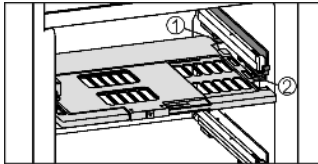

Fig. 8
- ▶ To insert the humidity control plate: Insert the cover mouldings of the plate into the rear holder Fig. 8 (1) from underneath and engage them in the holder Fig. 8 (2) at the front.